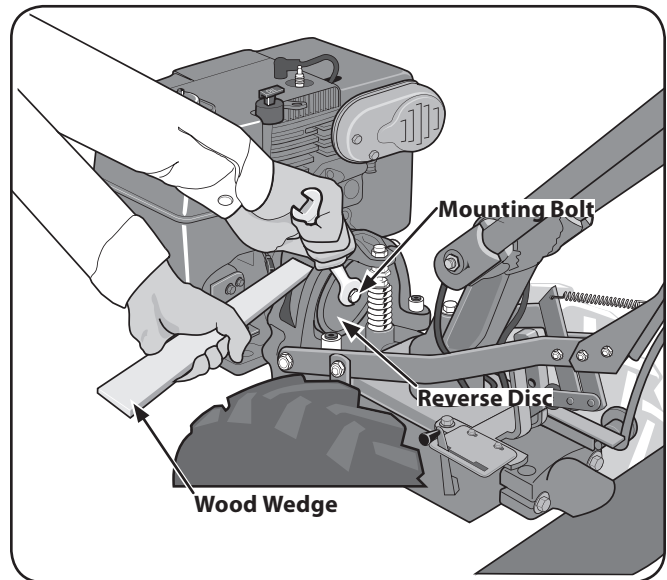

Figure 7-6
3. Use a $\frac{5}{16}$ " wrench to loosen the mounting bolt shown in Figure 7-6. Remember to immobilize the pulley with the wood wedge while loosening the bolt. If necessary, pry the disc from the pulley with the tip of a screwdriver. Back the bolt out as far as possible. Then angle the disc a little to remove it. Bring the bolt and lockwasher along with the disc. Installing a new Reverse Disc.